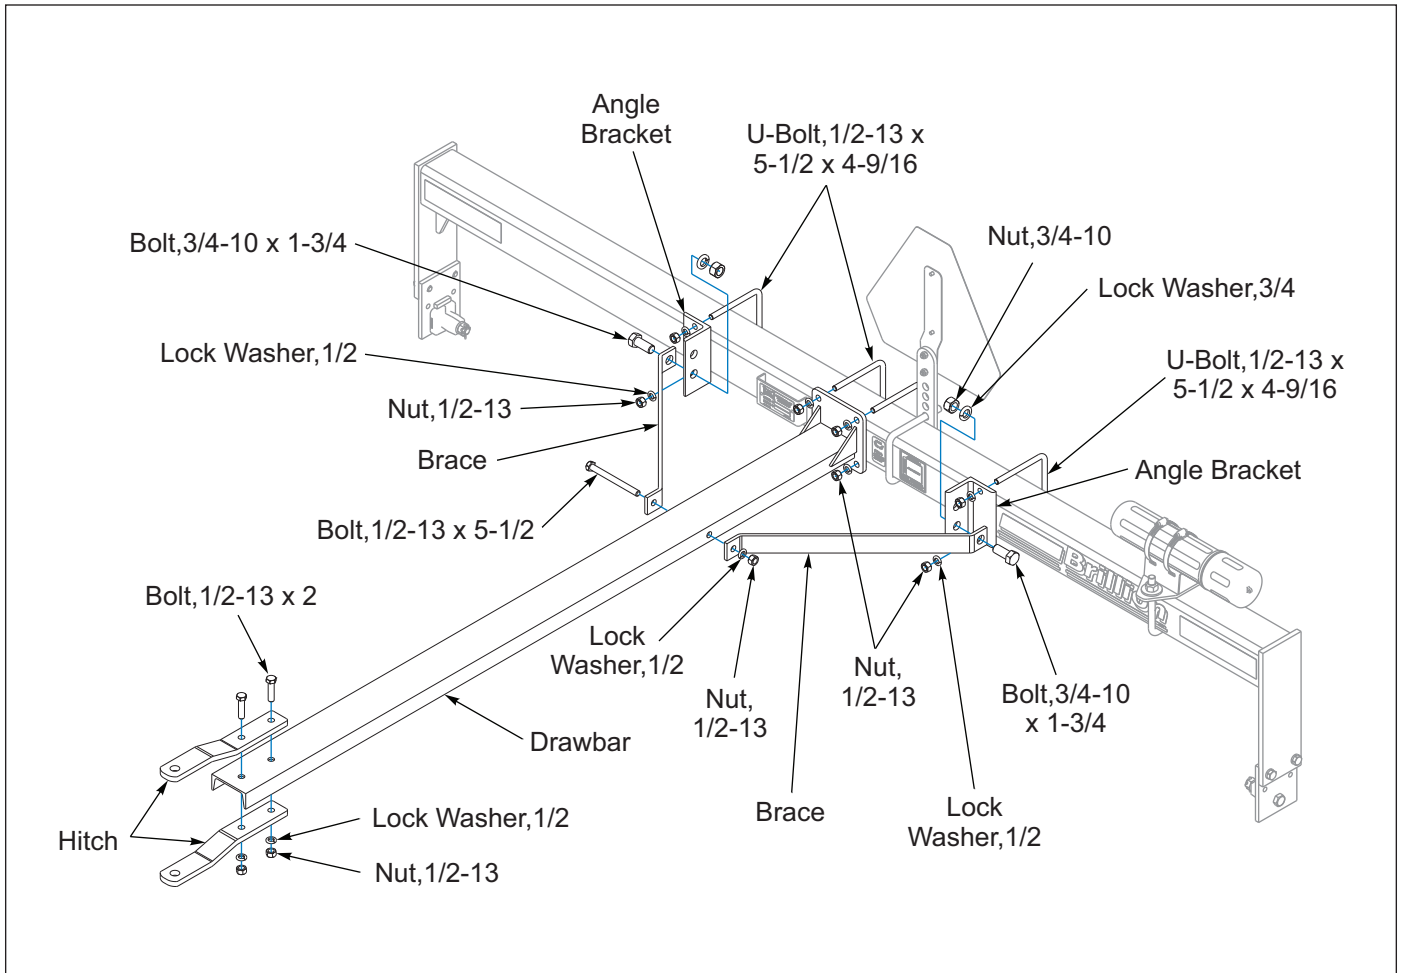

Figure 2-7: Hitch Kit, PP8
1. Attach Drawbar to the center of the front Frame Tube with 1/2-13 U-Bolts, Lock Washers, and Nuts. **See Figure 2-7.**